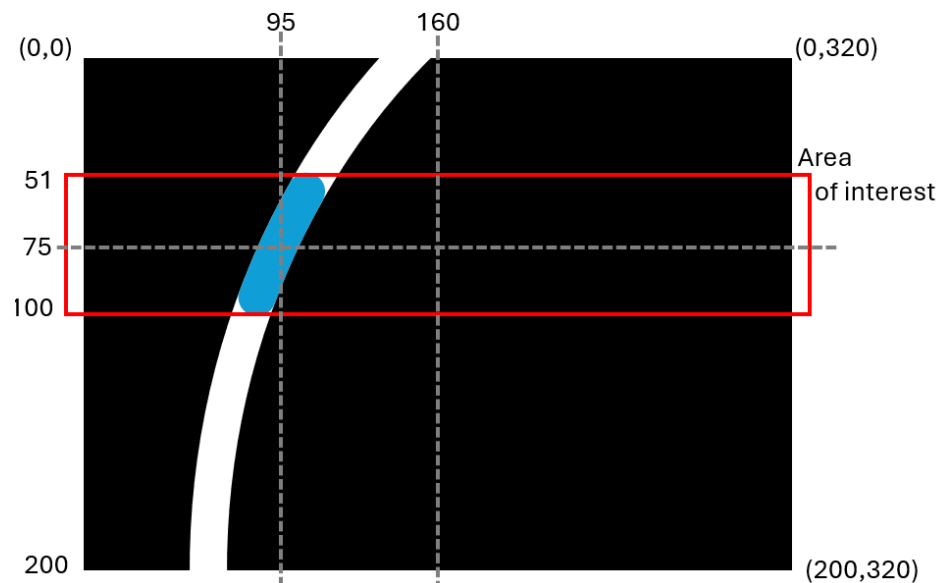

Figure 4. Image with the blob of interest in blue.
2. Using the **ctr** output (center of the blob) from the **Image Find Objects** block, find the error representing the difference between the center of the line and the center of the camera feed. Consider the image is 320 pixels wide and you want the distance between the blob center and the image center. Figure 4 will help you visualize this.
3. Find the error angle of the blob center based on the bottom center of the image. Use Figure 4 as a reference to find the correct geometric function to use. The angle error will be used for determining the turn speed command for the QBot.